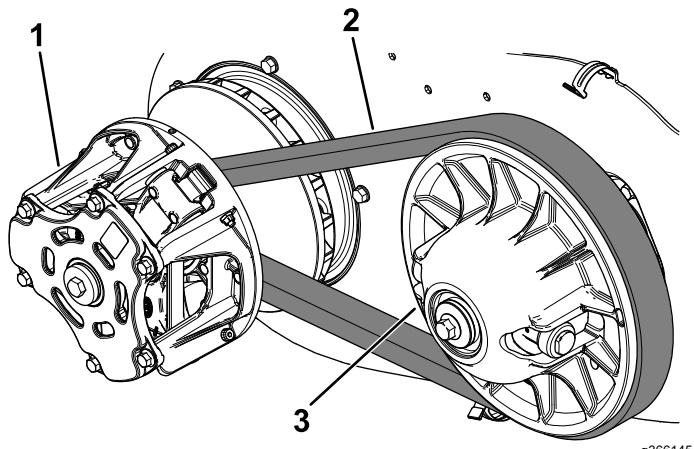

Figure 87
6. Rotate and inspect the belt (Figure 87) for signs of excessive wear or damage.
7. Using compressed air, clean the clutches thoroughly of all debris (Figure 87).
6. Pull up on the top of the belt to spread out the secondary clutch, then rotate and route the belt over the secondary clutch (Figure 87).
7. Remove the belt from the primary clutch (Figure 87).
8. Align the new belt over the primary clutch (Figure 87).
9. Rotate and route the belt over the secondary clutch (Figure 87).